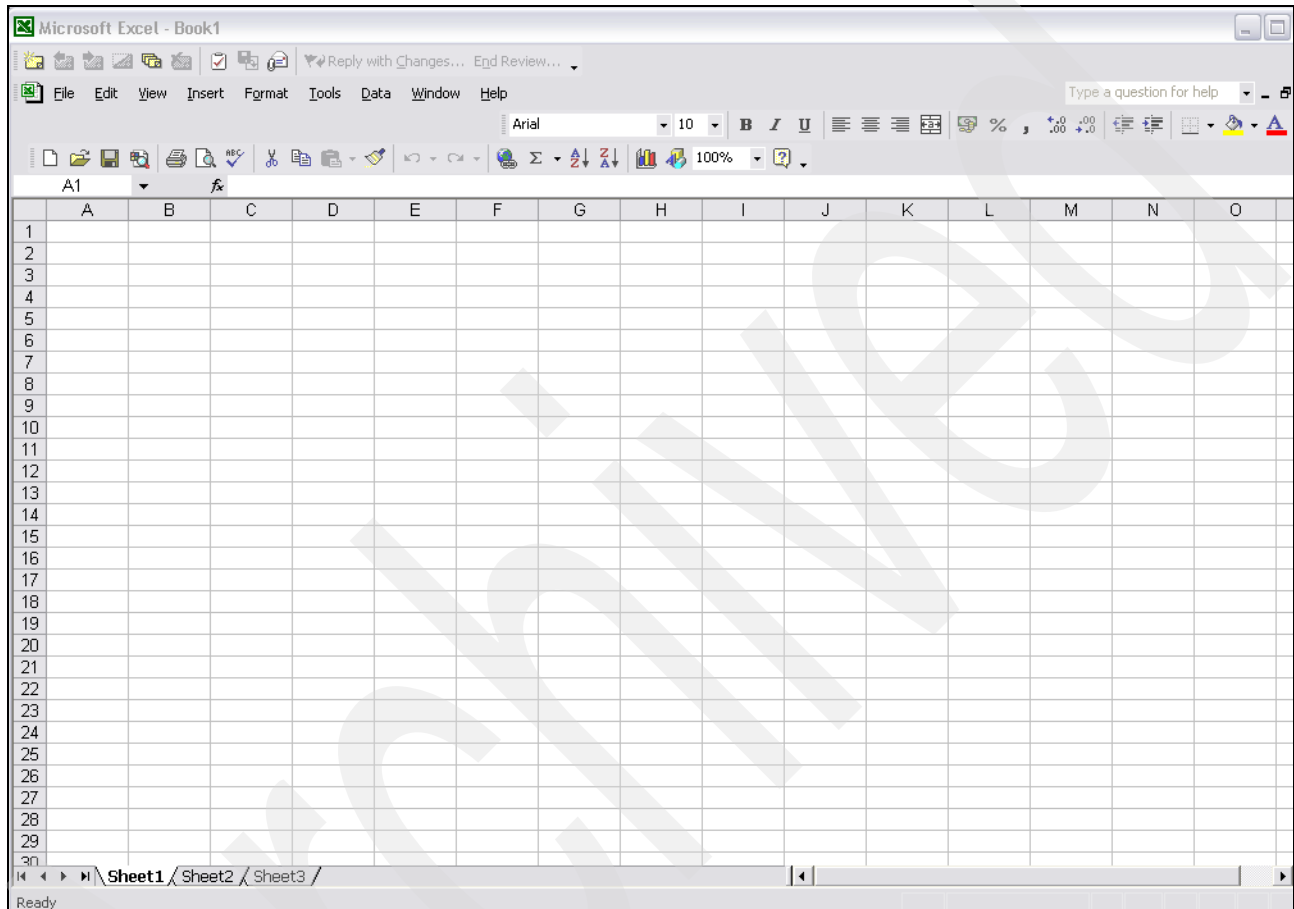

Figure 6-56 A new Excel document
1. Open a new Excel document as shown in Figure 6-56.